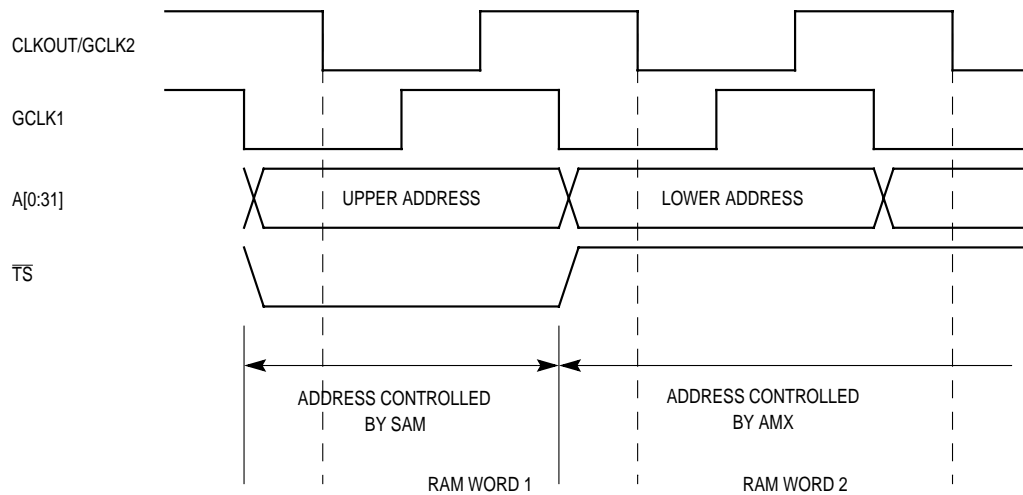

Figure 15-31. Address Multiplex Timing
**15.5.4.2.7 Address Multiplexing.** You can control the address signals that go to the external bus. The AMA and AMB fields of the MxMR control how the address signals are multiplexed. The SAM bit in the option register determines the address multiplexing for the first clock cycle. The AMX field in the RAM word determines the multiplexing for subsequent clock cycles. The lower address pins can be multiplexed between the internal upper or lower address signals. The SAM bit outputs the upper address signals and the AMX field outputs the lower address signals. Using the AMX field, you can output the contents of the memory address register (MAR) on the address pins. See Table 15-6 for general configuration. Table 15-7 shows how the AMA and AMB fields can be defined to interface with a wide range of DRAM modules. Figure 15-31 illustrates address multiplex timing.